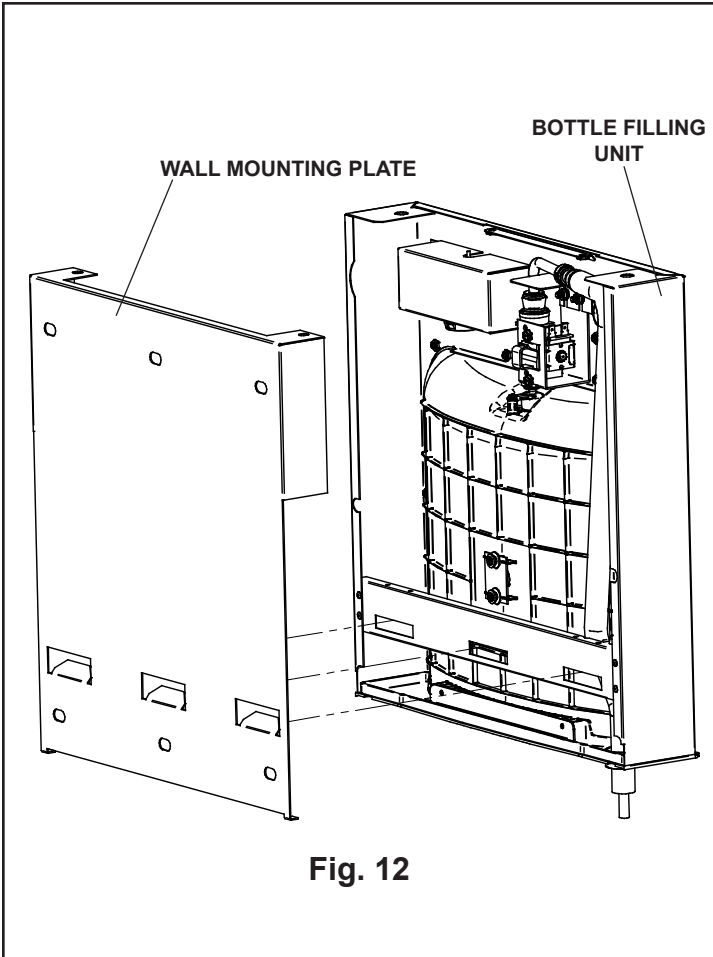

Fig. 12
- 8) With the power cord and waterline through hole on top of water cooler place Bottle Filler on the three (3) angled tabs protruding from the wall mounting plate installed on wall. Make sure round boss in gasket fits in hole of basin. (See Fig. 12).
- 9) Once Bottle Filler is installed on wall plate tabs, water line and power cord are installed properly, push top of Bottle Filler toward wall and line up top cover two (2) holes.